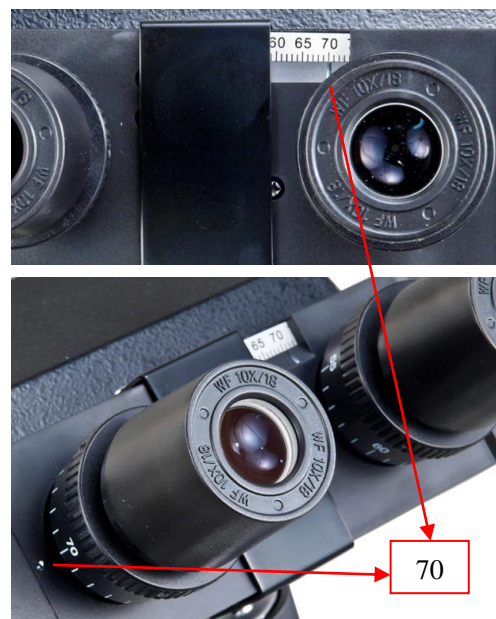

Fig.5
- 2) Rotate the diopter rings on the eyepiece tubes until its numerical value is the same as your interpupillary distance, for example, 70 in the figure (See **Fig. 5**).